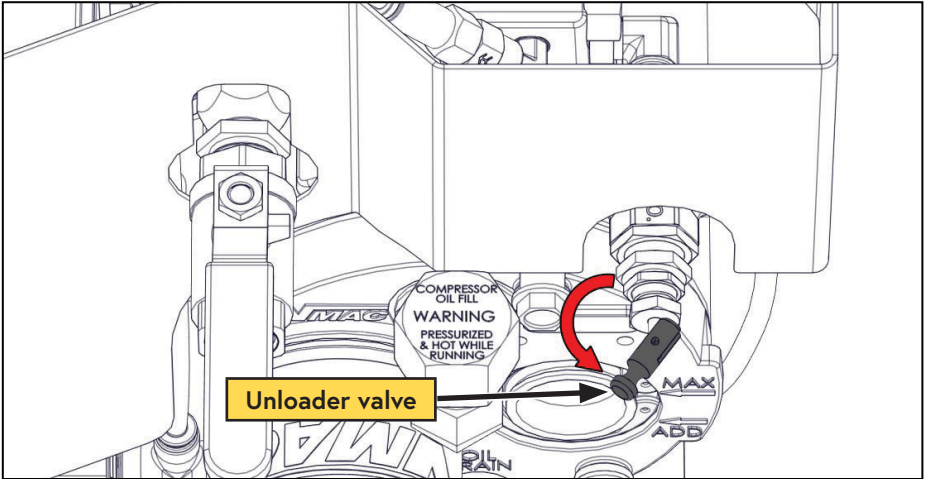

Figure 16 — Unloader valve
5) Actuate the unloader valve by pulling out the handle (Figure 16).